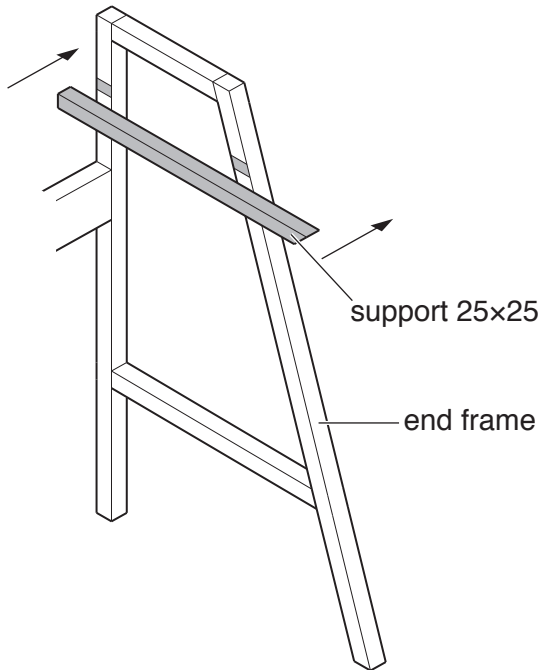

Fig. 16
- (ii) Fig. 16 shows an exploded view of a support and an end frame. Use sketches and notes to show how the support could be joined to the end frame using a temporary fixing in the space below.